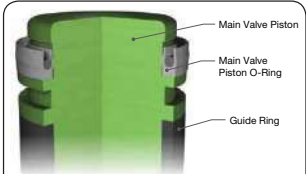

Figure 39: Main Valve Piston
10. For Teflon seals make sure of the integrity of the Teflon seal and seal spring. Install Disc Seal on Disc outside diameter on the opposite end of the disc seat as shown in Figure 39.